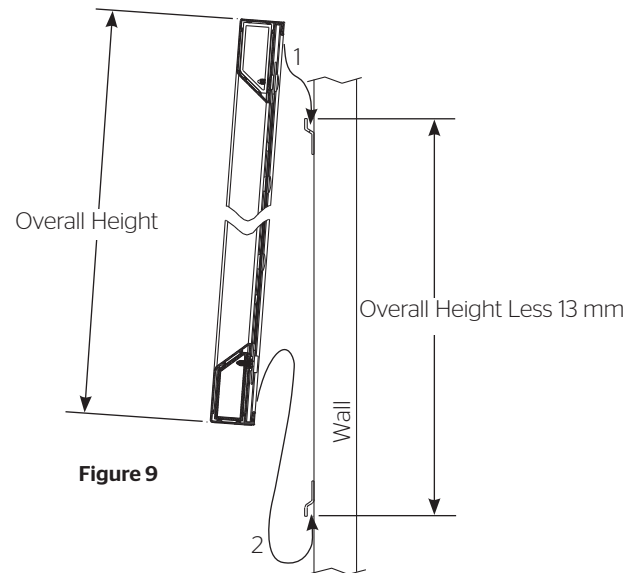

Figure 9
2. To install the bottom large wall bracket, you must measure the overall height of the screen frame and subtract 13 mm. This is the dimension from the top of the upper wall bracket to the bottom of the bottom wall bracket. See Figure 9.
3. Position the screen with the attached surface onto the top wall bracket as shown in Figure 9. Push down at the center of the bottom frame rail to hook onto the lower wall bracket.
1. Secure the wall brackets to wall studs at the desired height. Make sure the brackets are level. The top of the frame will be 3 mm above the top of the wall bracket when mounted. You will need at least 16 mm clearance above the bracket to hang the screen. Figure 9 and 10 show the proper orientation for the supplied wall brackets.
2. To install the bottom large wall bracket, you must measure the overall height of the screen frame and subtract 13 mm. This is the dimension from the top of the upper wall bracket to the bottom of the lower wall bracket. See Figure 9.